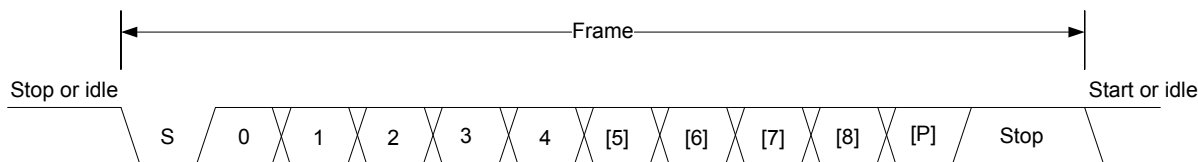

Figure 17.2. USART Asynchronous Frame Format
The frame format used in asynchronous mode consists of a set of data bits in addition to bits for synchronization and optionally a parity bit for error checking. A frame starts with one start-bit (S), where the line is driven low for one bit-period. This signals the start of a frame, and is used for synchronization. Following the start bit are 4 to 16 data bits and an optional parity bit. Finally, a number of stop-bits, where the line is driven high, end the frame. An example frame is shown in Figure 17.2 USART Asynchronous Frame Format on page 543.